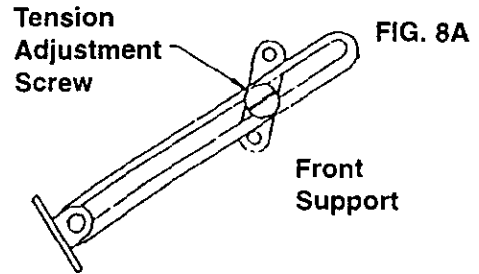
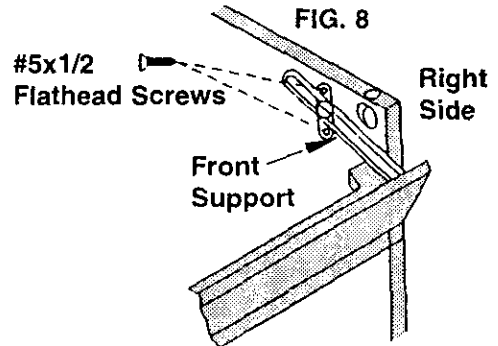

FIG. 8A
FIG. 8
- STEP 6A. Attach the Front Support to the Left side with (2) #5x1/2" Flathead Screws (as shown in FIG. 8). Tension can be adjusted on the Front Support by tightening the Adjustment Screw (as shown in FIG. 8A). Attach Self Sticking Rubber Tab on top edge of Leaf Support (as shown in FIG. 8B).